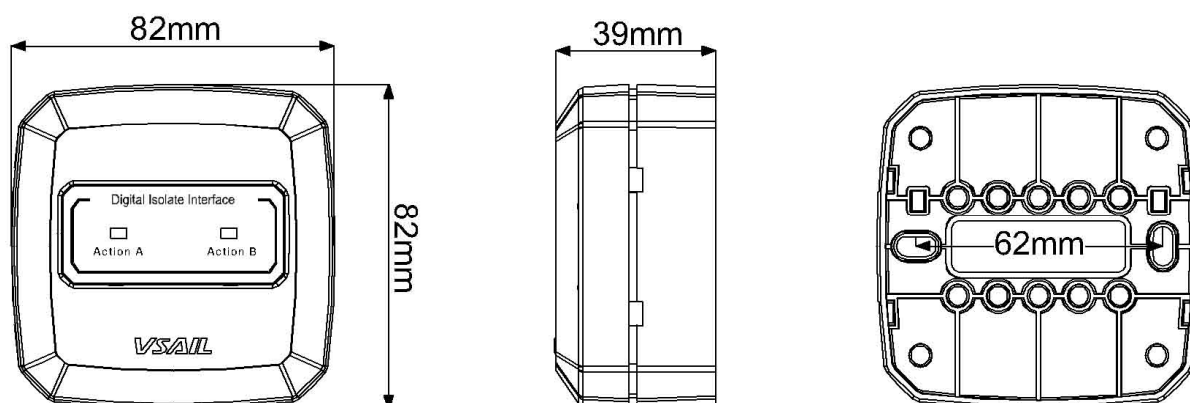

Fig.1
- ✧ **Dimensions: Showing on Fig.1**